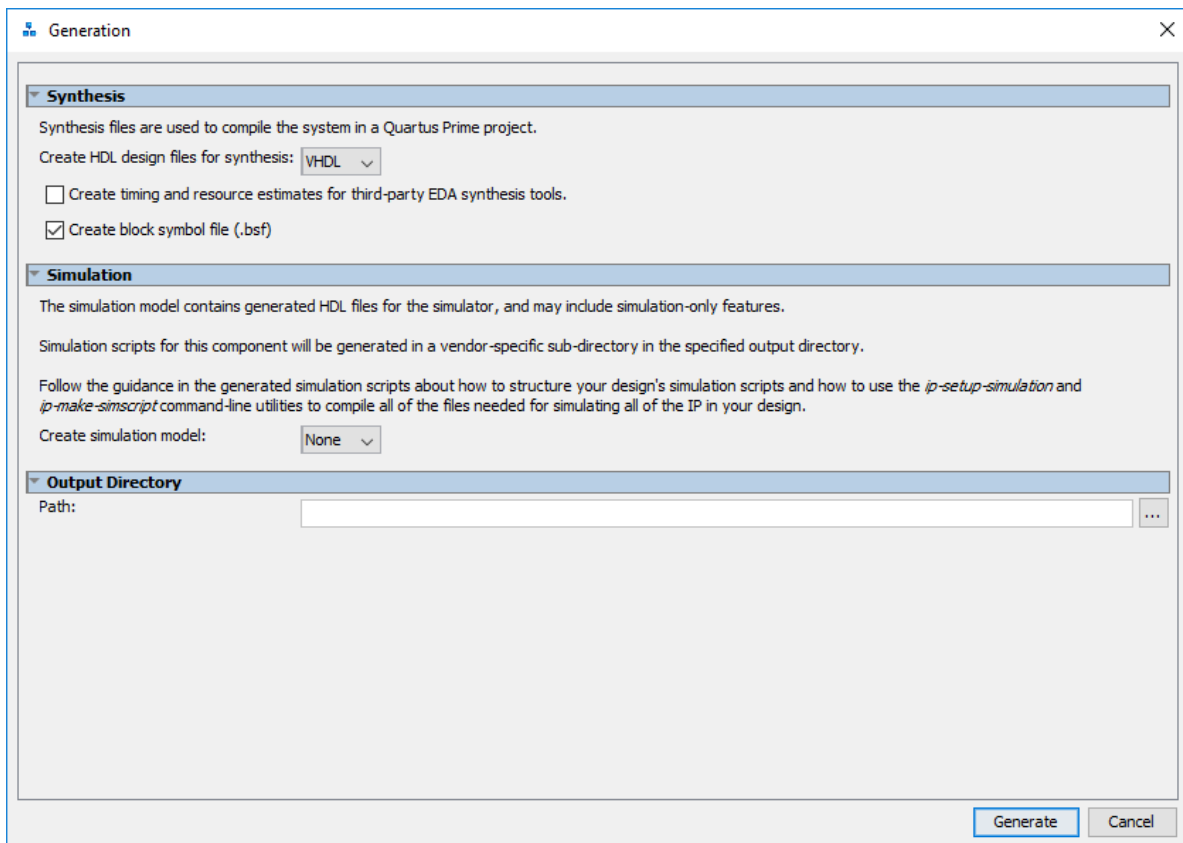

Figure 41 : QSYS Generate File
- Click **Generate HDL**. The windows in the Figure 41 will appear. Select the format file in Verilog or VHDL,